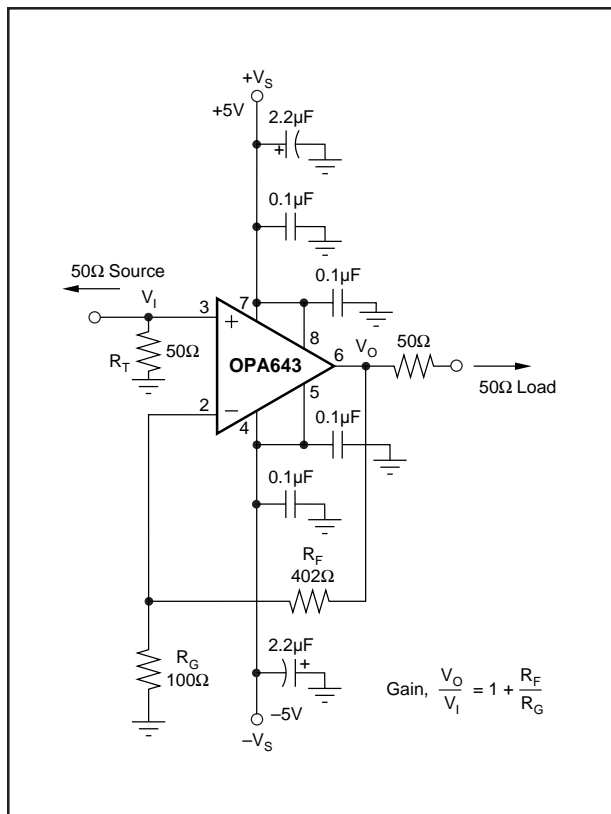

FIGURE 1. Gain of +5, High Frequency Application and Characterization Circuit (P or U Package).
The OPA643's combination of speed and dynamic range is easily achieved in a wide variety of application circuits, providing that simple guidelines common to all high speed amplifiers are observed. For example, good power supply decoupling, as shown in Figure 1, is essential to achieve the lowest possible harmonic distortion and smooth frequency response. Careful PC board layout and component selection will maximize the performance of the OPA643 in all applications, as discussed in the remaining sections of this data sheet.
Figure 1 shows the gain of +5 configuration used as the basis for most of the Typical Performance Curves. Most of the curves were characterized using signal sources with 50Ω driving impedance, and with measurement equipment presenting 50Ω load impedance. In Figure 1, the 50Ω shunt resistor at the V_I terminal matches the source impedance of the test generator, while the 50Ω series resistor at the V_O terminal provides a matching resistor for the measurement equipment load. Generally, data sheet specifications refer to the voltage swing at the output pin (V_O in Figure 1). The total 100Ω load from the series and shunt matching resistors, combined with the 502Ω total feedback network load, presents the OPA643 with an effective output load of approximately 83Ω.
To deliver the lowest possible distortion using the 8-pin SO-8 or DIP package, additional 0.1μF power supply decoupling capacitors on pins 5 and 8 are required. These are shown in Figure 1. Although pins 5 and 8 are internally connected to pins 4 and 7 respectively (the standard supply pins for 8-pin op amps), the additional capacitors help to decouple the package lead inductances and decrease the second-harmonic distortion for a 5MHz fundamental by approximately 4dB. The much shorter bond wires and supply leads of the SOT23-5 package give the best distortion performance while requiring only two power supply connections.
Since the OPA643 is a voltage feedback op amp, a wide range of resistor values may be used for the feedback and gain setting resistors (R_F and R_G in Figure 1). The primary limits to these values are set by dynamic range (noise and distortion) and parasitic capacitive considerations. Usually, the feedback resistor value should be between 200Ω and 1kΩ. Below 200Ω, the feedback network will present additional output loading which can degrade the harmonic distortion performance of the OPA643. Above 1kΩ, the typical parasitic capacitance (approximately 0.2pF) across the feedback resistor may cause unintentional band-limiting in the amplifier response.
A good rule of thumb is to target the parallel combination of R_F and R_G (Figure 1) to be less than about 200Ω. The combined impedance $R_F || R_G$ interacts with the inverting input capacitance, placing an additional pole in the feedback network and thus a zero in the forward response. Assuming a 3pF total parasitic on the inverting node, holding $R_F || R_G < 200\Omega$ will keep this pole above 250MHz. By itself, this constraint implies that the feedback resistor R_F can increase to several kΩ at high gains. This is acceptable as long as the pole formed by R_F and any parasitic capacitance appearing in parallel with it is kept out of the frequency range of interest. The exception to this is in wideband transimpedance applications as described earlier. There, a feedback pole is used to compensate for the zero formed by the input capacitance and the feedback resistor.
Generally, until the fundamental signal reaches very high frequencies or powers, the second harmonic will dominate the distortion with negligible third harmonic component. Focusing then on the second harmonic, increasing the load impedance improves distortion directly. Remember that the total load includes the feedback network—in the non-inverting configuration this is sum of $R_F + R_G$, while in the inverting configuration it is only R_F (Figure 1). Larger output voltage swings lead directly to increased harmonic distortion. A 6dB increase in output voltage swing will generally increase the second harmonic by 12dB and the third harmonic by 18dB. Higher signal gain settings will also increase the second harmonic distortion. A 6dB increase in voltage gain will raise the second and third harmonics by
Evaluating these two equations for the OPA643 component values shown in Figure 1 will give a total output spot noise voltage of 13.3nV/√Hz and a total equivalent input spot noise voltage of 2.7nV/√Hz.
Narrowband communications systems are more commonly concerned with the Noise Figure (NF) for the amplifier. The total input referred voltage noise expression (Equation 2 above), may be used to calculate the noise figure. Equation 3 shows the noise figure expression using the E_N of Equation 2 for the non-inverting configuration where the input termination resistor R_T has been set to match the 50Ω source impedance (as shown in Figure 1).
Evaluating Equation 3 for the circuit of Figure 1 gives a Noise Figure = 15.9dB. Input transformer coupling can be used to reduce this noise figure. A broadband pulse transformer can provide both a noiseless voltage gain and a more optimum source impedance to minimize the noise figure. Figure 9 shows an example built from the circuit of Figure 1, in which the transformer turns ratio has been set to the closest integer for minimum noise figure. This optimum turns ratio is calculated by:
The OPA643 provides excellent DC signal accuracy due to the combination of high open-loop gain, high common-mode rejection, high power supply rejection, low input offset voltage and low bias current offset errors. The high grade (B) version of any package type provides less than 1.5mV input offset voltage. To take full advantage of this low input offset voltage, careful attention to input bias current cancellation is also required. The high speed input stage for the OPA643 has a relatively high input bias current (19μA typical into each input pin) but with a very close match between the two input currents—typically 100nA input offset current. The total output offset voltage may be considerably reduced by matching the source resistances which appear at the two inputs. For example, one way to include bias current cancellation in the circuit of Figure 1 would be to insert a 55Ω series resistor into the non-inverting input after the 50Ω terminating resistor, R_T . When the 50Ω source resistor is DC coupled, this will increase the source resistance for the non-inverting input bias current to 80Ω. Since this is now equal to the resistance appearing at inverting input ($R_F \parallel R_G$), the circuit will cancel the gains for the bias currents to the output, leaving only the offset current times the feedback resistor as a residual DC error term at the output. Using a 402Ω feedback resistor, this output error will now be less than $3\mu A \cdot 402\Omega = 1.2mV$ over the full temperature range.
As a worst case example, compute the maximum T_J using an OPA643N (SOT23-5 package) in the circuit of Figure 1 operating at the maximum specified ambient temperature of $+85^\circ\text{C}$. $P_D = 10\text{V} \cdot 26\text{mA} + 5^2 / (4 \cdot (100\Omega \parallel 502\Omega)) = 335\text{mW}$. Maximum $T_J = +85^\circ\text{C} + (0.335\text{W} \cdot 150^\circ\text{C/W}) = 135^\circ\text{C}$.